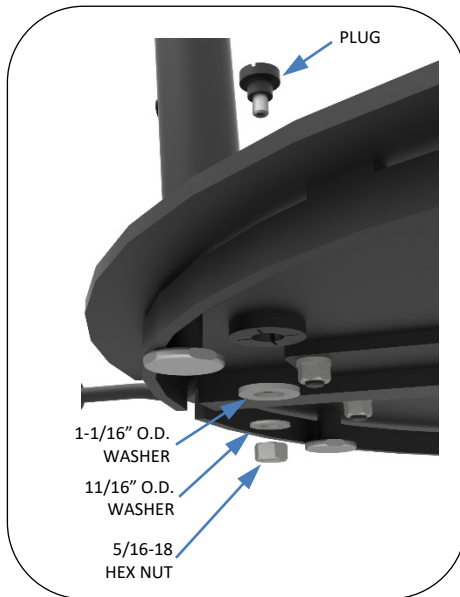

Fig. 3 – Remove plug to anchor freestanding unit
1. Using flat head screwdriver and ½" wrench, remove plug hardware in anchoring hole, see Fig. 3.